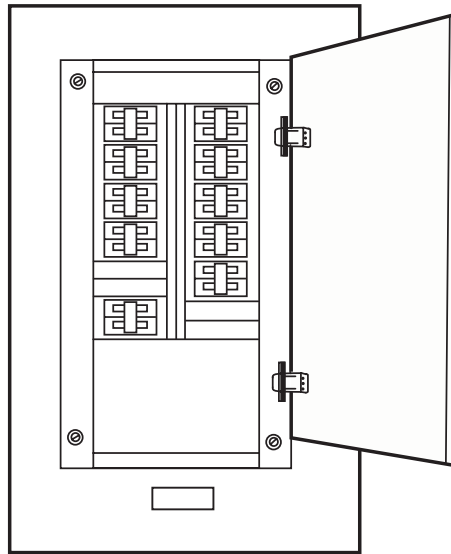

Figure 8. 120V Distribution Panel No. 1
- h. 120V distribution panel No. 1 (figure 8), located in the galley.